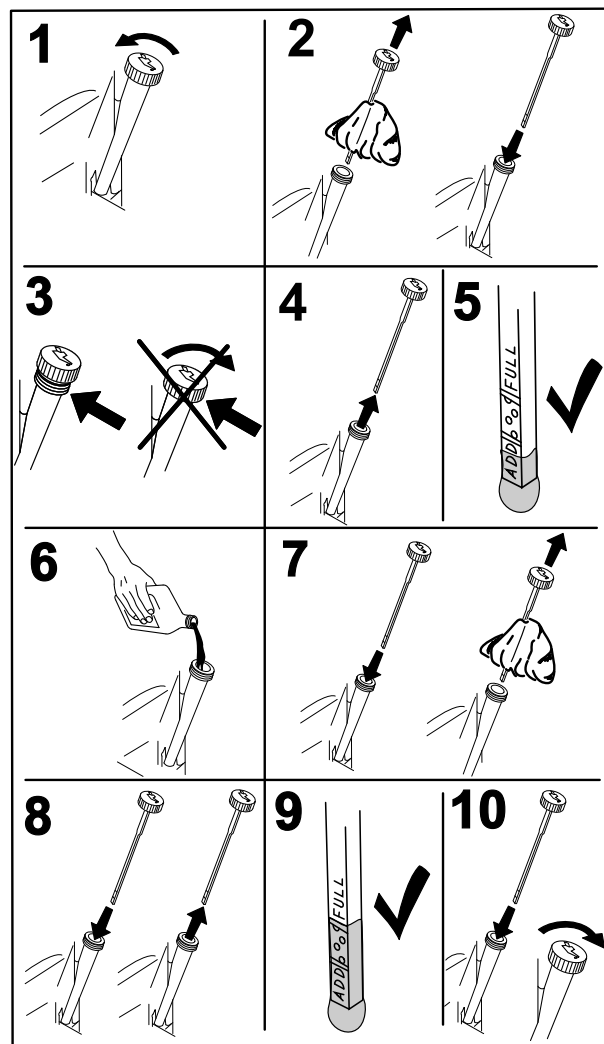

Figure 32
3. To keep dirt, grass clippings, etc., out of the engine, clean the area around the oil fill cap/dipstick before removing it (Figure 32).